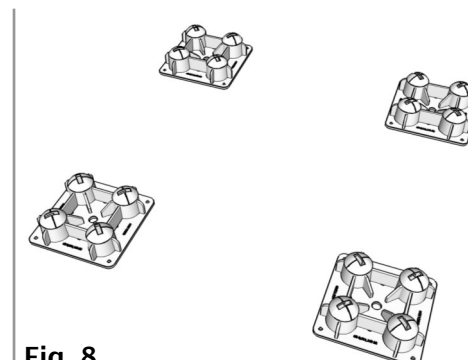

Fig. 8
4. Place 3 additional Piers (A) on grade and locate them with the Pier Template (F). (Fig. 8 & 9)